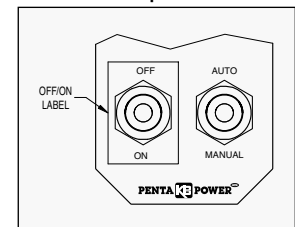

Figure 2 - Mounting
2. Align the switch key in the front cover and mount the Power On/Off Switch assembly using the rubber boot that is provided. Do not overtighten the rubber boot hex nut. See figure 2.